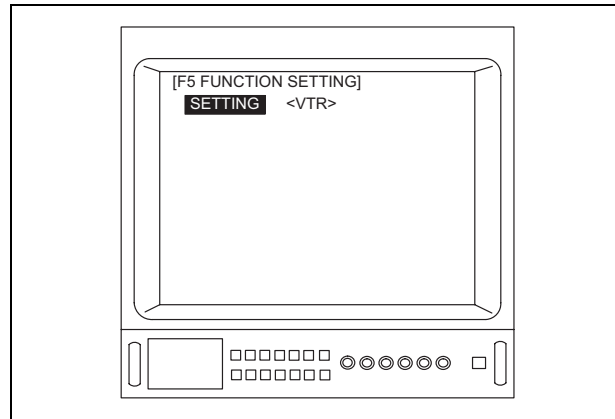

Figure 5.64
2. Depress the menu switch “◀” or the “Enter” key on the keyboard to adjust the “SETTING” (see Figure 5.64).